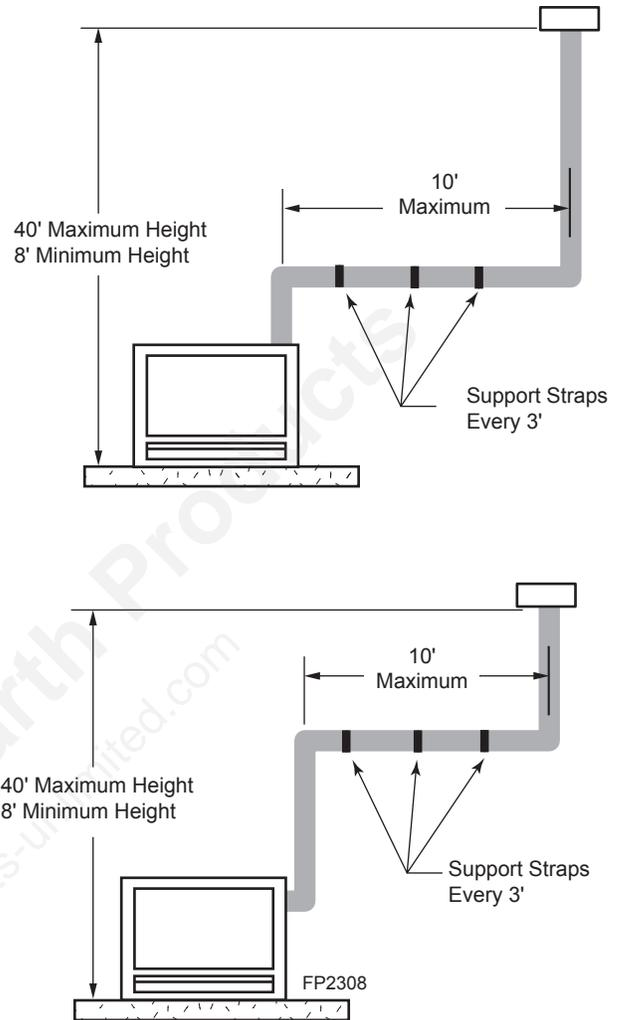

Figure 35 - Support Straps for Horizontal Runs
- Vertical installations up to 40' (12 m) in height. Up to a 10' (3 m) horizontal vent run can be installed within the vent system using a maximum of two 90° elbows. *Figure 35*